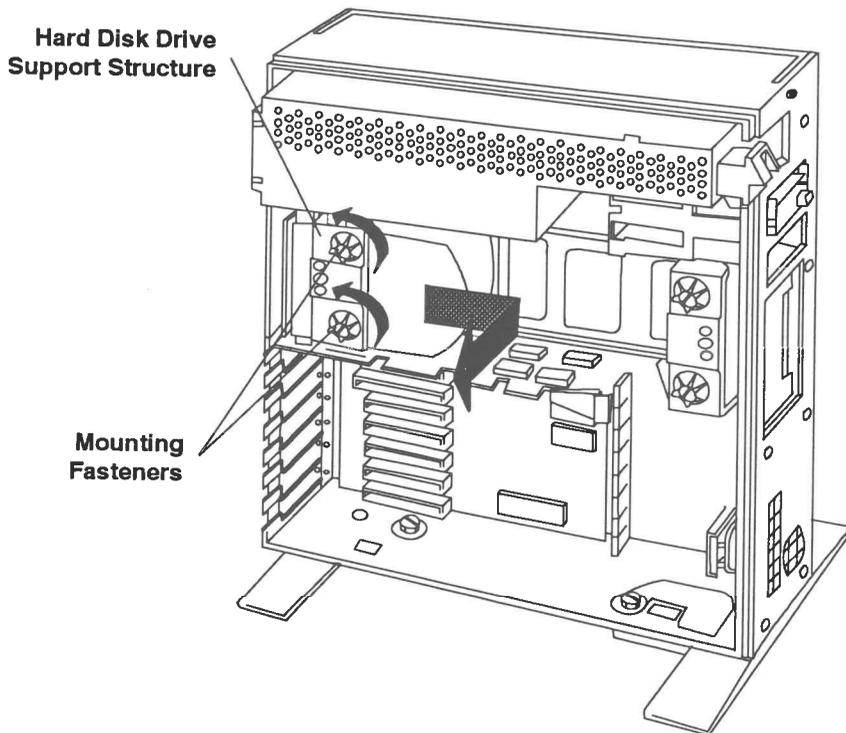

Figure 2-6 Hard Disk Drive Removal/Installation, Rear Bay
6. Loosen the two mounting fasteners that secure the hard disk drive to the hard disk support structure (see Figure 2-6).
7. Slide the hard disk toward the front of the unit until it has cleared the support structure enough to pull it out and away from the unit as shown in Figure 2-6.
11. Secure the rear bay hard disk drive into place by tightening the two mounting fasteners on the support structure (see Figure 2-6).